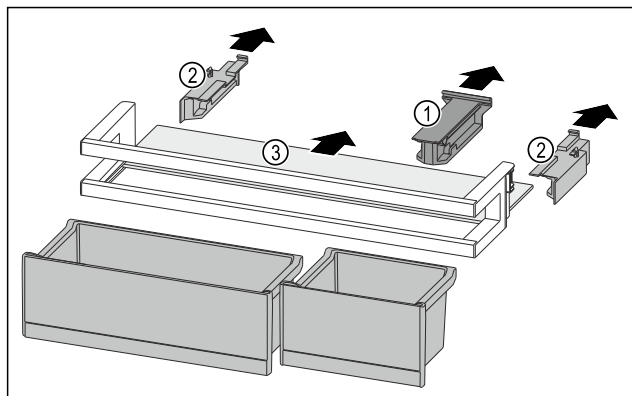

Fig. 251
- Pull off the holding part Fig. 251 (1).
- Pull off the side parts Fig. 251 (2).
- Remove the shelf Fig. 251 (3).